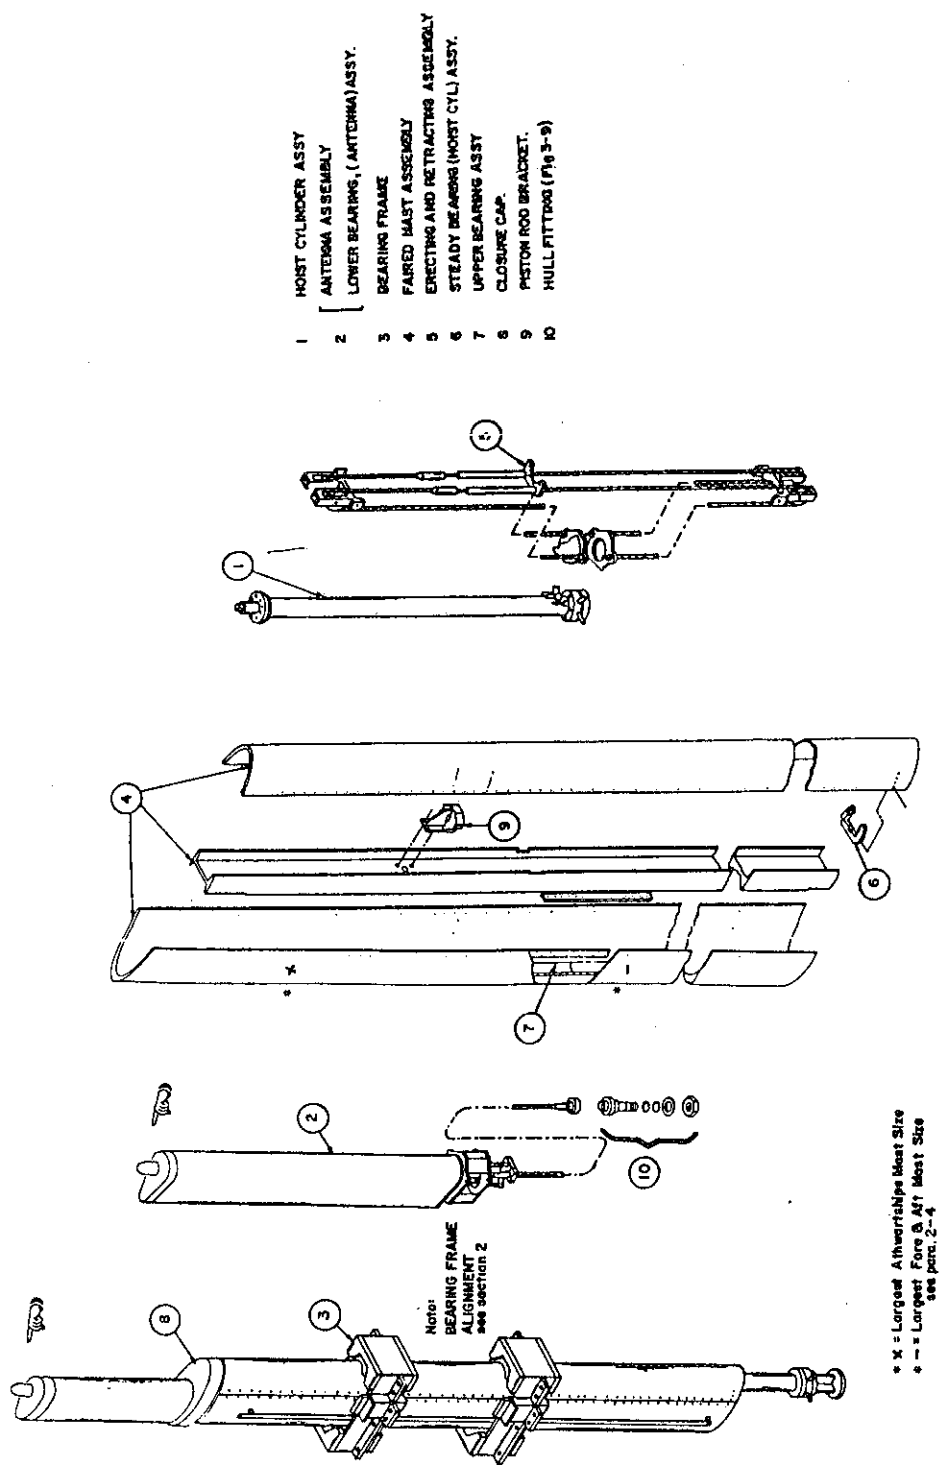

Figure 3-8. Antenna Mast Assembly.
The faired mast's largest fore/aft measurement has a (-) mark painted on the mast, also the distance from the bottom of the mast to the largest measurement is inscribed on the instruction plate secured to the mast's lower end. See Figure 3-8.
The faired mast's largest athwartship measurement has an (X) mark painted on the mast, also the distance from the bottom of the mast to the largest measurement is inscribed on the instruction plate secured to the mast's end. See Figure 3-8.
- Step 10. Move the faired mast until the (X) mark is located at the lower bearing frame and adjust the side bearing assemblies by shimming. Obtain the 0.005" clearance between the mast surface and bearing shoe.
- Step 11. Move the faired mast until the (X) mark is located at the upper bearing frame. Repeat Step 9 for side bearing assembly adjustment.
- Step 3. Clamp antenna, Figure 3-1, coil and tie off all erecting, retracting and antenna cables to the lower bearing assembly, Figure 3-8.
- Step 4. Crane-lift antenna over mast assembly and enter the antenna and retracting wire rope cables, Pc. 6, Figure 3-8, into the mast after section and take up all cable slack.